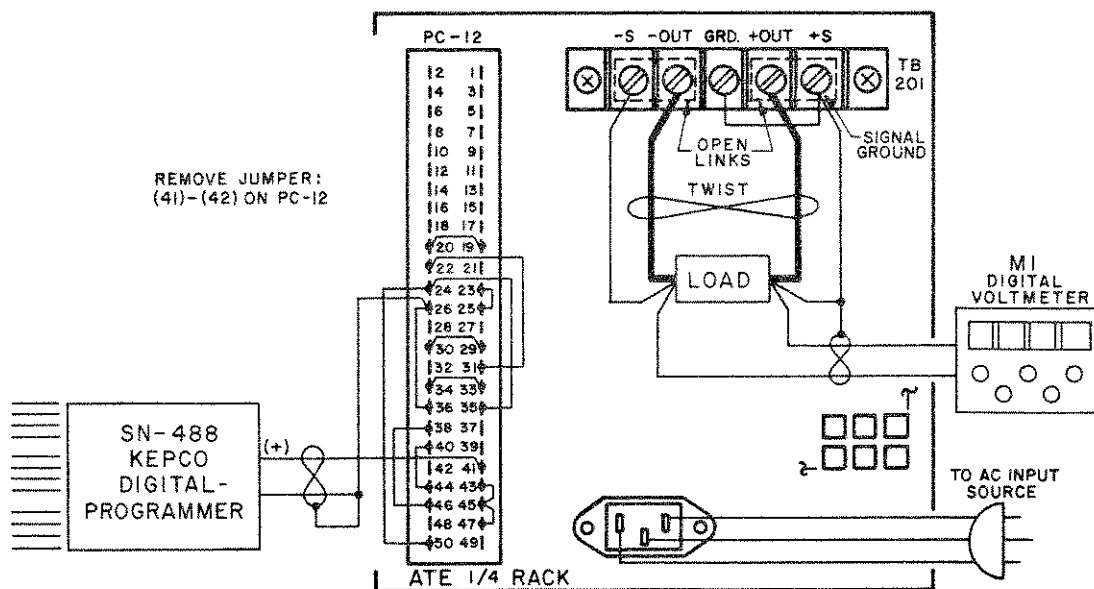

FIG. 3-6 OUTPUT VOLTAGE CONTROL WITH AN EXTERNAL (0-10V, 1 mA) D-C CONTROL SIGNAL.
- 3-38 GENERAL. The ATE output voltage which is controlled by a front panel VOLTAGE CONTROL in the Local control mode, can be remotely controlled by disconnecting the internal VOLTAGE CONTROL AMPL at the REAR PROGRAMMING CONNECTOR (PC-12) and substituting an external control signal at the input of the VOLTAGE COMPARISON AMPL with reference to the PROGRAMMING COMMON. For this "direct drive" method of voltage control, the control signal must be a positive going 0–10 volt d-c voltage source, able to supply at least 1 mA of control current. An application, demonstrating this control method is described in PAR. 3-41, and illustrated in FIG. 3-6.
- 1) Connect the EXT. CONTROL VOLTAGE, (SN–488 DIGITAL PROGRAMMER), the LOAD and the PRECISION VOLTMETER (M1) to the ATE as shown in FIG. 3-6.